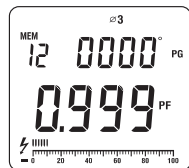

Figure 22
- Press **SELECT** again to choose the third phase $\varnothing 3$, see figure 22.